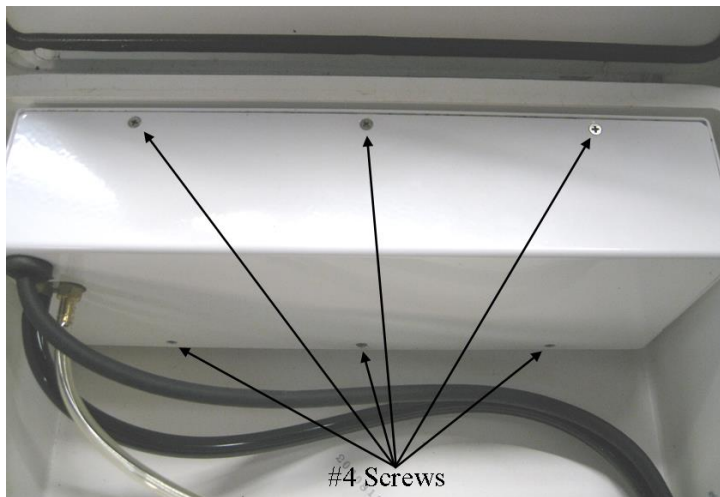

FIGURE H-3. Location of #4 screws of pump assembly
4. With the filter assembly removed from the CPEC300 system pump module enclosure, remove the six #4 screws (FIGURE H-3) from the pump assembly.
5. Hold the pump assembly securely to the shell cover while replacing the shell cover to the shell bottom. Make sure the fan does not slide back out of its hole in the foam. Fasten the shell cover in place with the six #4 screws (see FIGURE H-3).
6. Reconnect the tubing to the inlet and outlet of the filter assembly (see step 2 of removal and refer to FIGURE H-3).